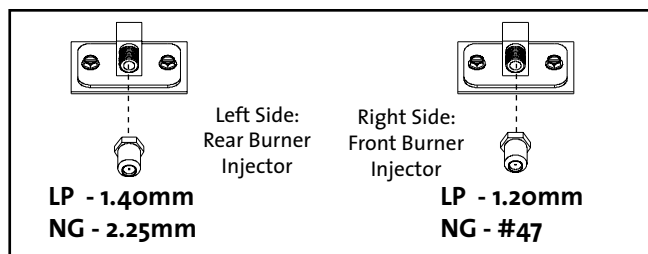

Figure 5.5. Change the burner injector orifices.
9. CHANGE THE BURNER INJECTORS See fig. 5.5.